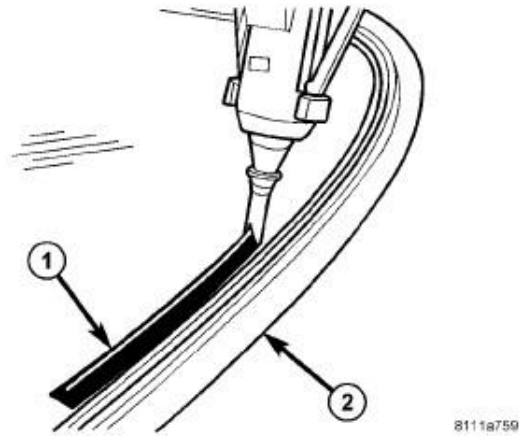

Figure 23 – Urethane Bead
49. Using Sikatack Mach 30, (Sikatack Safe 30 if Safelite is performing the installation), Betaseal Xpress 30, or equivalent, apply approximately a 7 mm (0.275 in) wide by 13mm (0.511 in) high bead of adhesive (1) with a triangular nozzle approximately 6 mm (0.230 in) from the edge of the glass starting at the bottom center of the windshield (Figure 23).